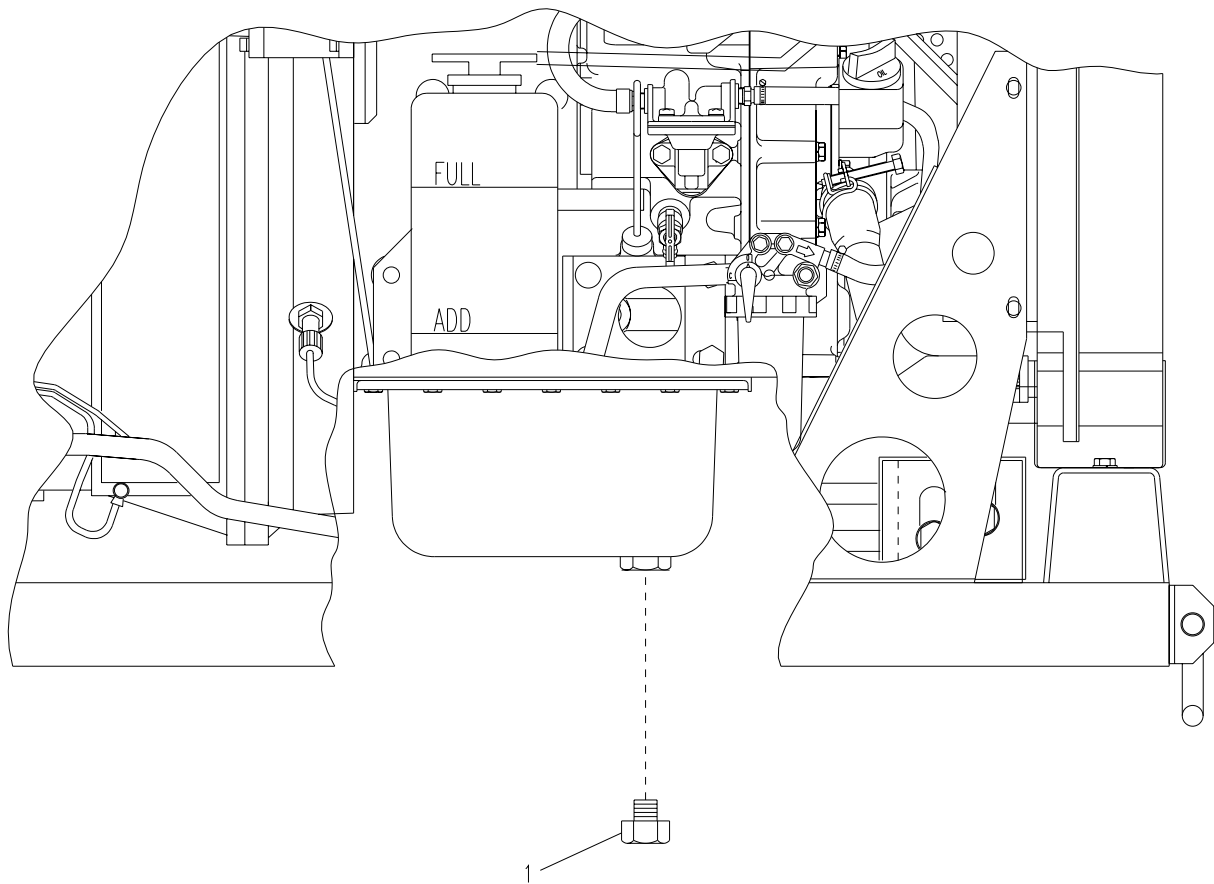

Figure 4-1. Engine Oil
- a. Remove drain plug (1, Figure 4-1) at the bottom of the engine.